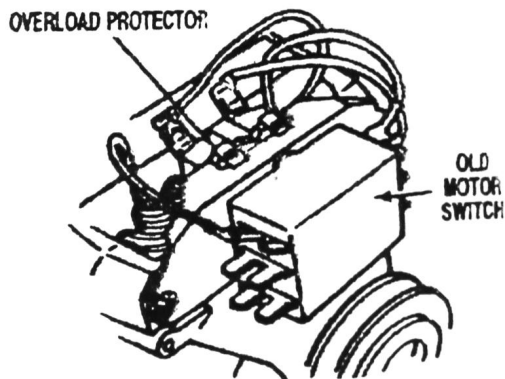

FIGURE 4A
- Compare and note difference between the motor switch of the failed motor and the switch of the new replacement motor. If the switches are the same, simply install the motor in reverse order you've removed the failed motor. See Figures 4A & 4B. If not, proceed to step 9.